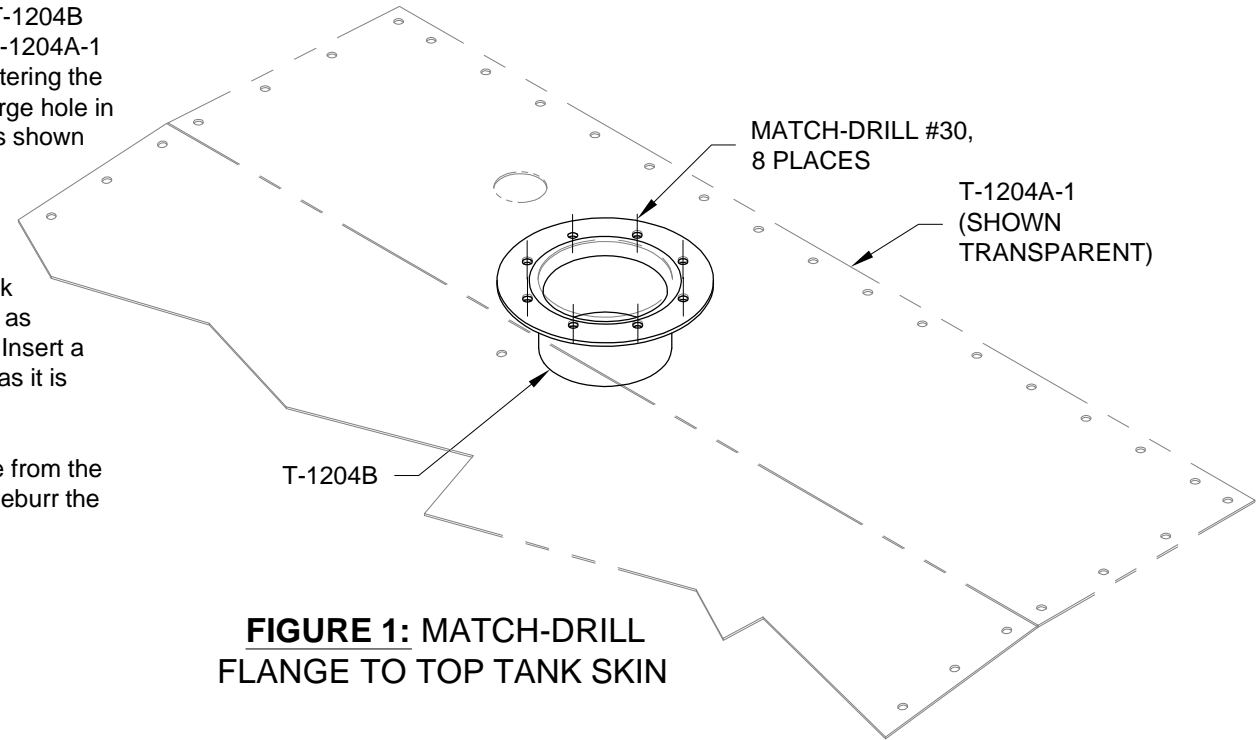

FIGURE 1: MATCH-DRILL FLANGE TO TOP TANK SKIN
Step 1: Place the T-1204B Flange under the T-1204A-1 Top Tank Skin centering the flange under the large hole in the top tank skin as shown in Figure 1.
Match-Drill #30 the holes in the top tank skin into the flange as shown in Figure 1. Insert a cleco in each hole as it is match-drilled.